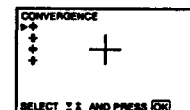

Fig. 3
- 1 Select "CONVERGENCE" with Δ + or ∇ - and press OK. The CONVERGENCE menu appears. (See Fig. 3.)